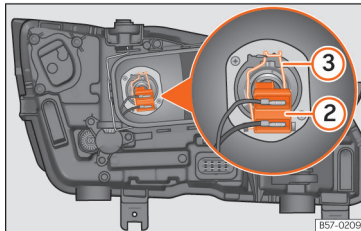

Fig. 54 In the engine compartment: dipped beam headlight bulb.
- Unclip the retainer spring »» **Fig. 54 ③** pressing clockwise and inwards.
- Remove connector »» **Fig. 54 ②** from the bulb.